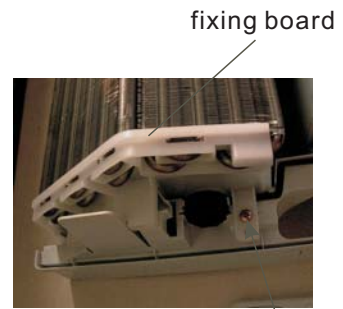

Fig. 12
1. Release the two fixing screws, disassembly the fixing board from evaporator on the left side of the evaporator and pull out the whole evaporator. (Fig. 12)